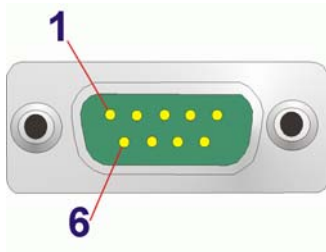

Figure 3-22: Serial Port Pinout Locations
- CN Pinouts:** See **Table 3-23** and **Figure 3-22**